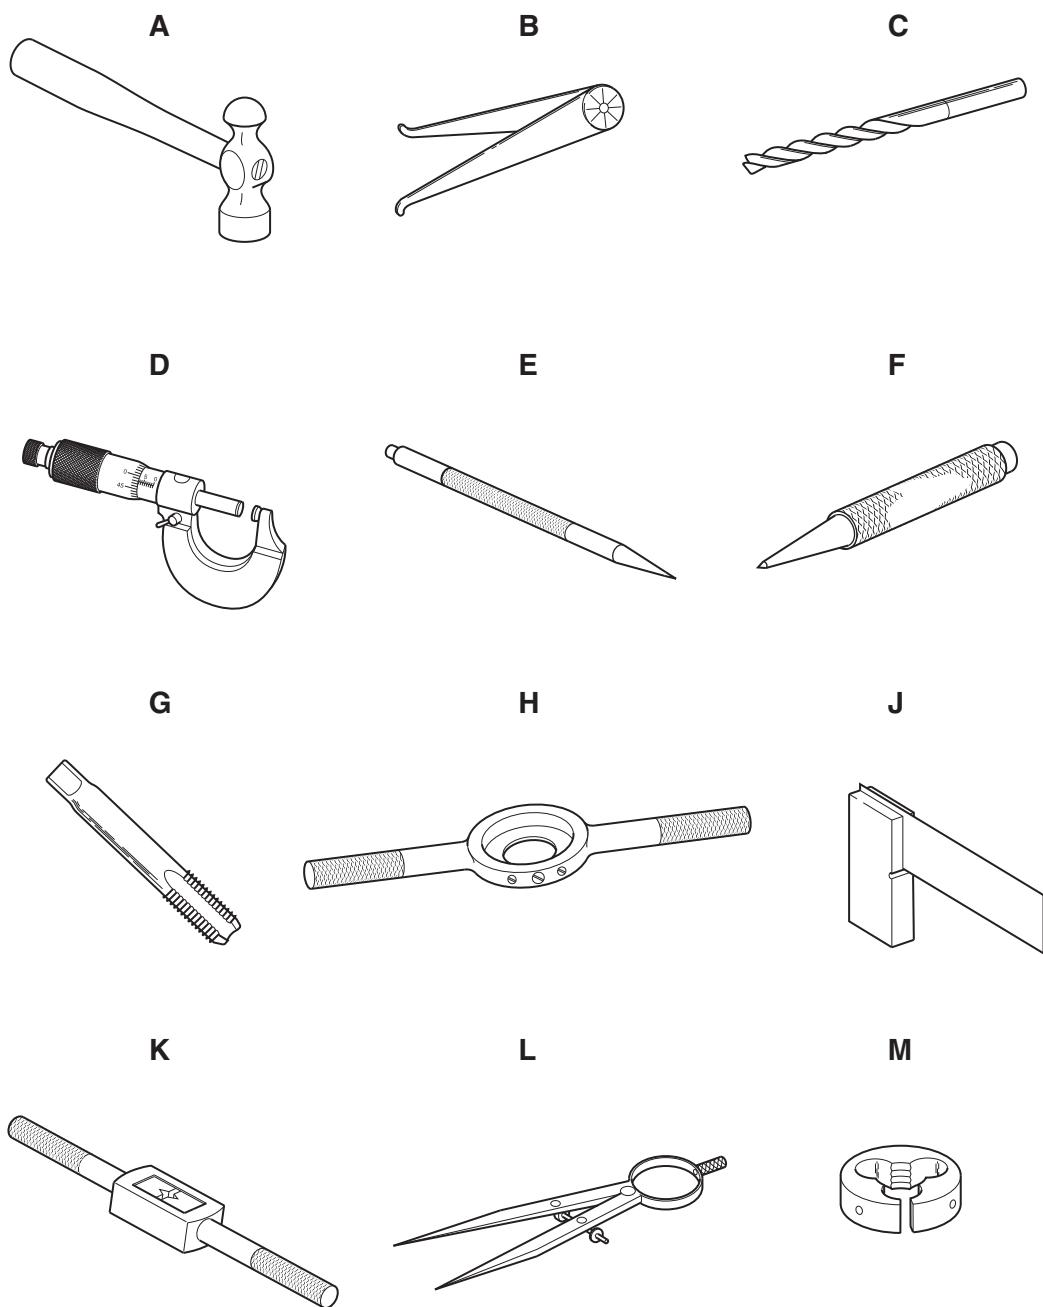

Fig. 1
- 1 Fig. 1 shows a variety of hand tools used in the workshop.
- (a) Some of the tools shown in Fig. 1 are often used together.